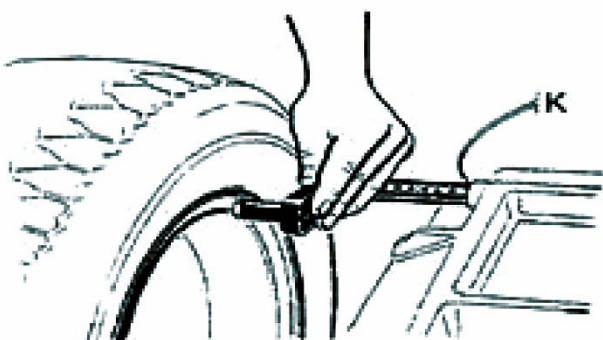

fig.1
- * Setting the "a" value: Move the gauge to the first measuring point (e.g. as shown in Fig.1), hold the gauge (for approx. 4 seconds) in this position, after confirmation return the gauge to the 0 position. (The measured value is automatically shown in the display).